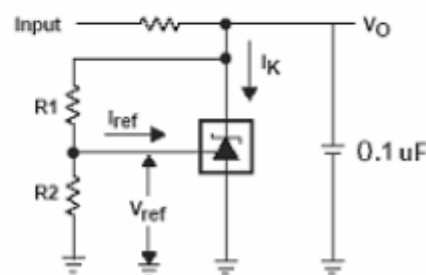

Figure 4. Test Circuit for $V_{KA}>V_{REF}$,
* To improve the stability of output voltage, Figure 4, a 0.1uF capacitor is recommended between cathode to anode.